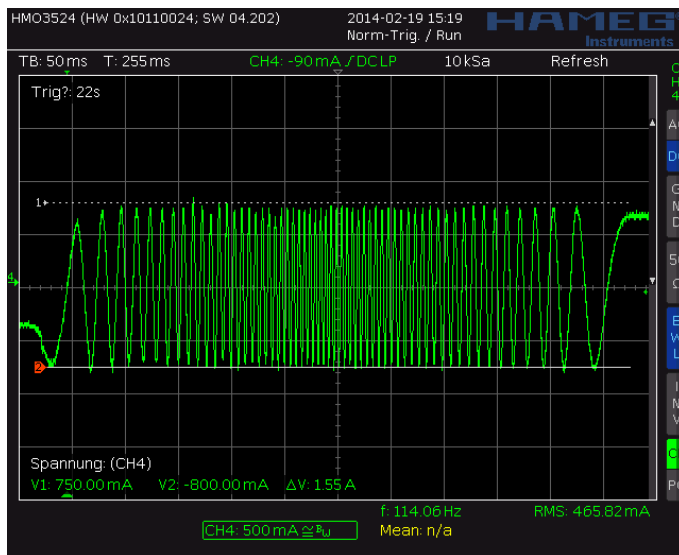
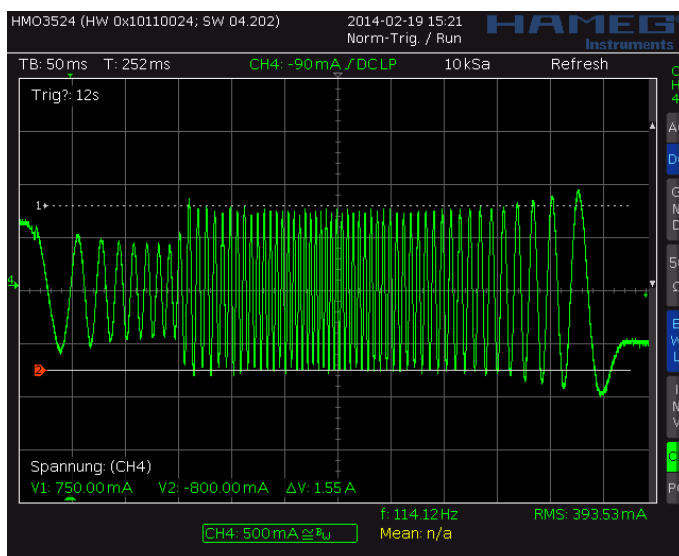
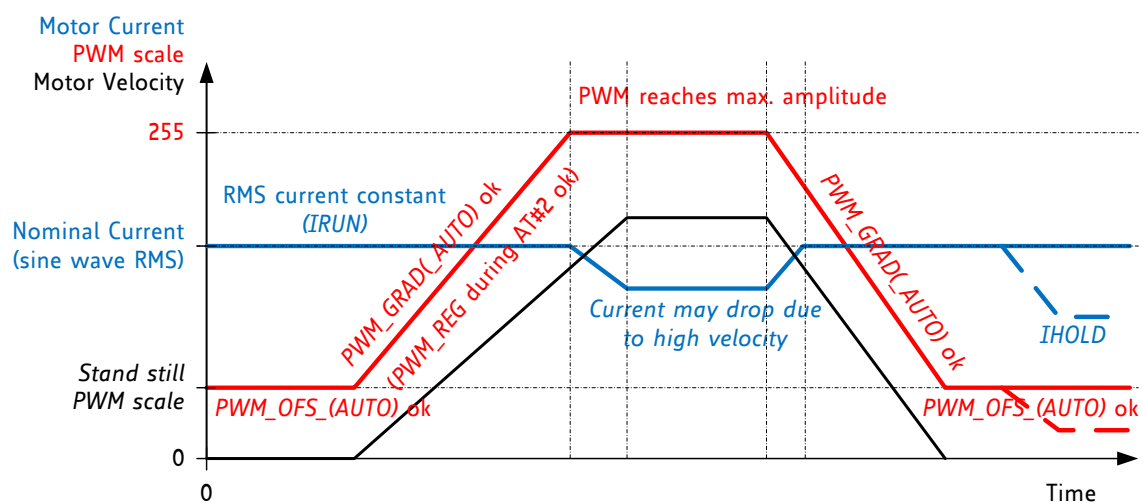

Figure 7.3 Scope shot: good setting for PWM_REG
Figure 7.4 Scope shot: too small setting for PWM_REG during AT#2
Figure 7.5 Successfully determined PWM_GRAD(AUTO) and PWM_OFS(AUTO)
In StealthChop voltage PWM mode, the autoscaling function ($pwm_autoscale = 1$, $pwm_auto_grad = 1$) regulates the motor current to the desired current setting. Automatic scaling is used as part of the automatic tuning process (AT), and for subsequent tracking of changes within the motor parameters. The driver measures the motor current during the chopper on time and uses a proportional regulator to regulate PWM_SCALE_AUTO in order match the motor current to the target current. PWM_REG is the proportionality coefficient for this regulator. Basically, the proportionality coefficient should be as small as possible to get a stable and soft regulation behavior, but it must be large enough to allow the driver to quickly react to changes caused by variation of parameters (e.g., change of mechanical load). During initial tuning step AT#2, PWM_REG also compensates for the change of motor velocity. Therefore, a high acceleration during AT#2 will require a higher setting of PWM_REG . With careful selection of homing velocity and acceleration, a minimum setting of the regulation gradient often is sufficient ($PWM_REG=1$). PWM_REG setting should be optimized for the fastest required acceleration and deceleration ramp (compare Figure 7.3 and Figure 7.4). The quality of the setting PWM_REG in phase AT#2 and the finished automatic tuning procedure (or non-automatic settings for PWM_OFS and PWM_GRAD) can be examined when monitoring motor current during an acceleration phase Figure 7.5.